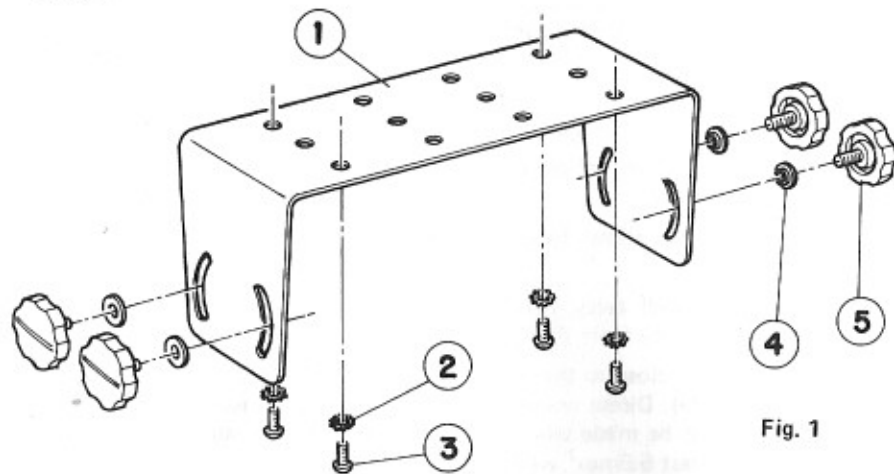

Fig. 1
6. Under the conditions of OFF DC Power, connect DC power cable to battery. Red wire is plus, and minus for black. Standard voltage is between 12V and 13.2V and maximum operating voltage is between 11.2V and 15.2V. Please check the voltage carefully before connecting as unit will not only operate properly but will be damaged if you use over rating condition. This unit is designed for both plus and minus ground of hull, When you use with plus grounded hull, please refer to Fig. 1, 2 and be careful to be sure to install the insulation bush for short circuit as this unit is insulated by the point of the insulation bush of mounting bracket.